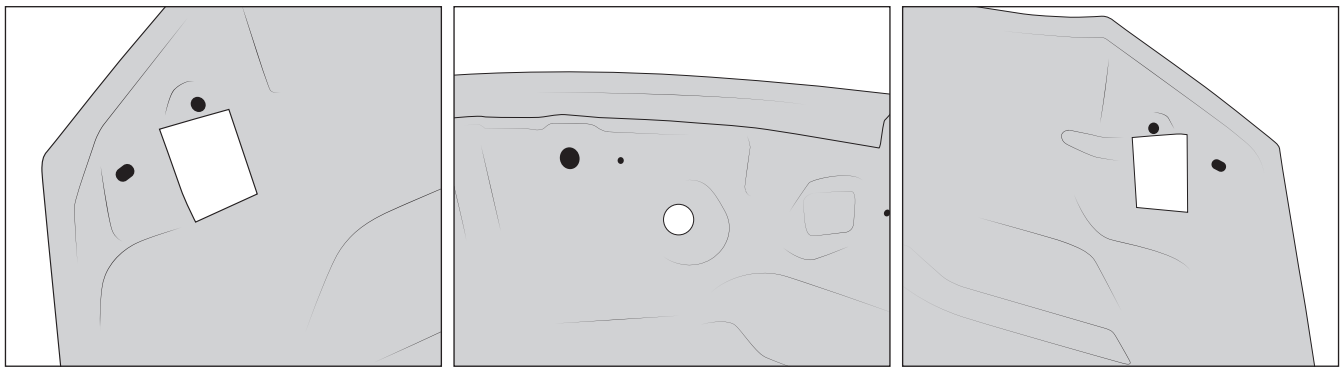

Figure 9
6. Install the supplied pieces of clear mylar to the underside of the hood to protect the paint from the hood bumpers (fig. 9)